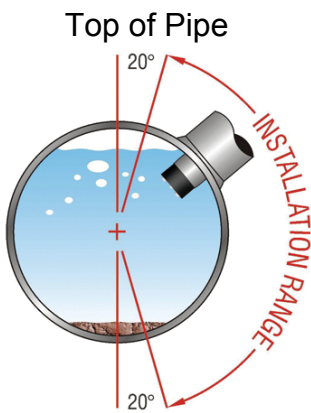

Figure 1.1
- B. When the probe is installed on a horizontal pipe, the preferred orientation for the probe is between 1 and 5 o'clock as shown in **Figure 1.1**. Ensure that the probe is installed square and centered on the pipe.
- C. Measure the full length of the probe (E), calculate 12.5% of the pipe I.D. (A), obtain the pipe wall thickness (B) and measure the distance between the outer pipe wall and the